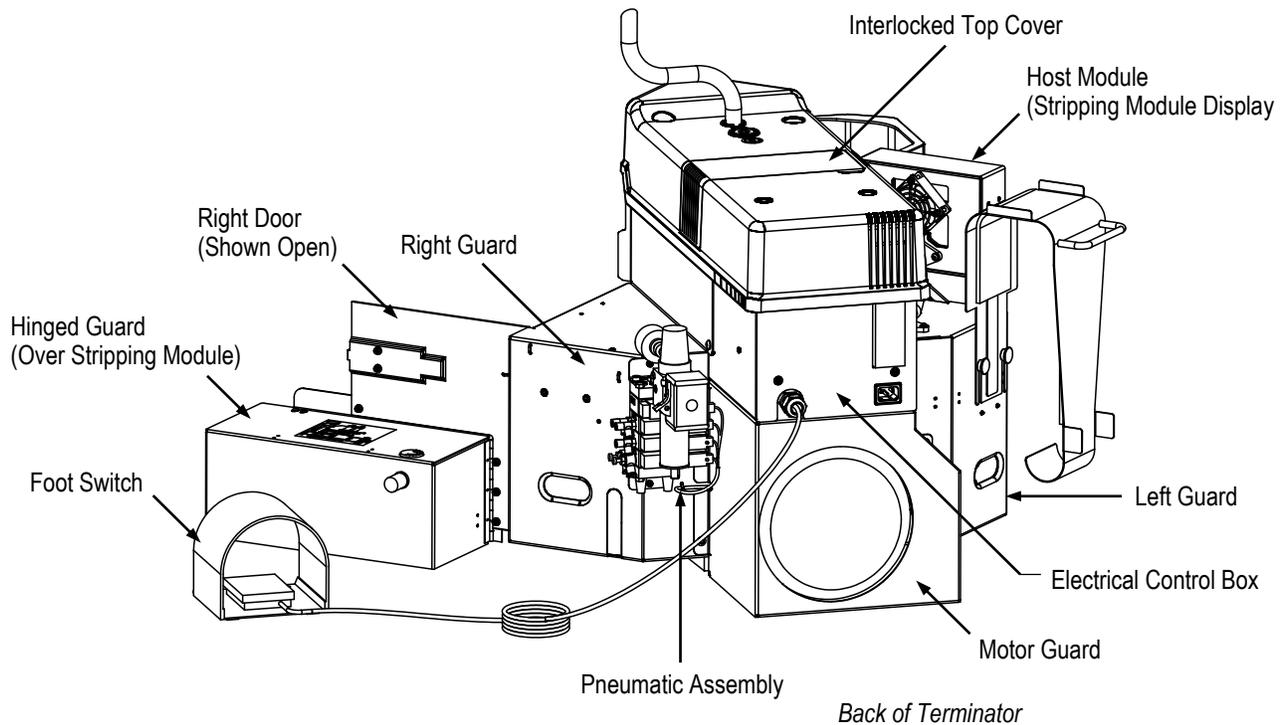

Figure 4
A combination of guards is installed to provide protection for the operator while maintaining proper visibility of the work area. See Figure 1. From the front of the terminator, the main guard swings open to the left and the hinged guard swings open to the right (refer to Figure 1 and Figure 4) to allow easy access for applicator installation and setup.
1. Remove all mounting bolts securing the terminator to the shipping pallet. The lift point of the terminator is accessible from the interlocked top cover (shown in Figure 4).